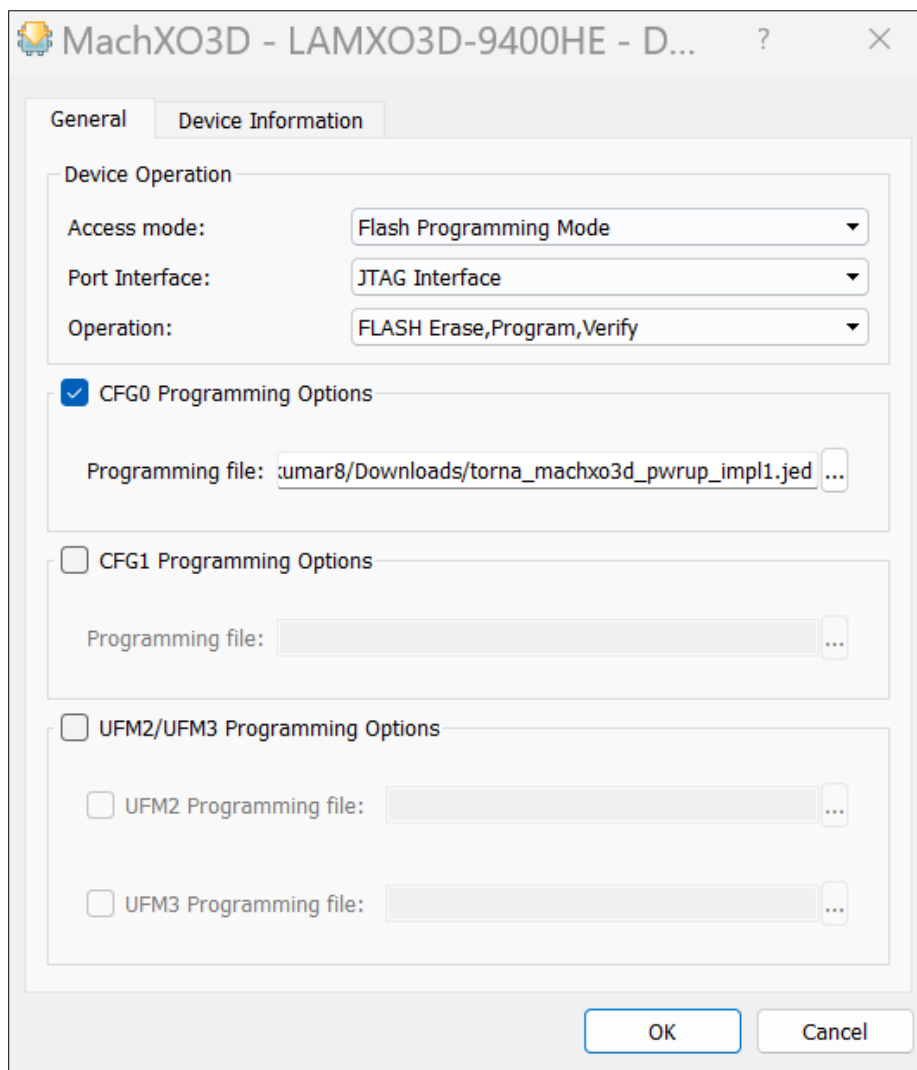

Figure 16.6. Diamond Programmer – Select Device Property
4. Select **Device Properties** and click **OK** (Figure 16.6).